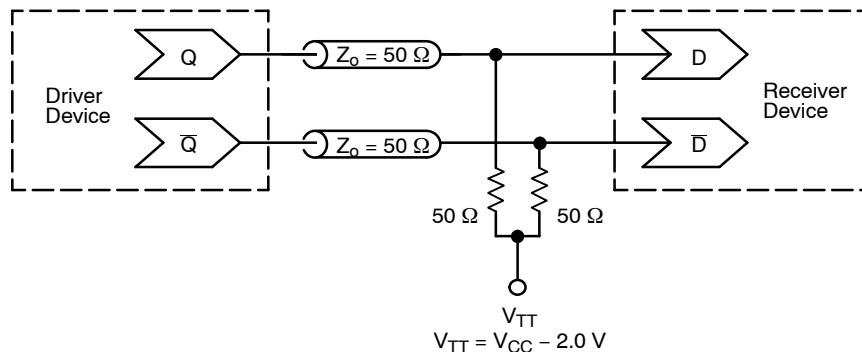

Figure 10. Typical Termination for Output Driver and Device Evaluation (See Application Note AND8020/D – Termination of ECL Logic Devices.)
- All loading with 50  $\Omega$  to  $V_{CC} - 2.0\text{ V}$  (see Figure 10).
9. All loading with  $50\ \Omega$  to  $V_{CC} - 2.0\text{ V}$  (see Figure 10).
12. All loading with  $50\ \Omega$  to  $V_{CC} - 2.0\text{ V}$  (see Figure 10).
15. All loading with 50  $\Omega$  to  $V_{CC} - 2.0\text{ V}$  (see Figure 10).
18. All loading with 50  $\Omega$  to  $V_{CC} - 2.0\text{ V}$  (see Figure 10).
20. Measured using a 750 mV source, 50% duty cycle clock source. All loading with 50  $\Omega$  to  $V_{CC} - 2.0\text{ V}$  (see Figure 10).